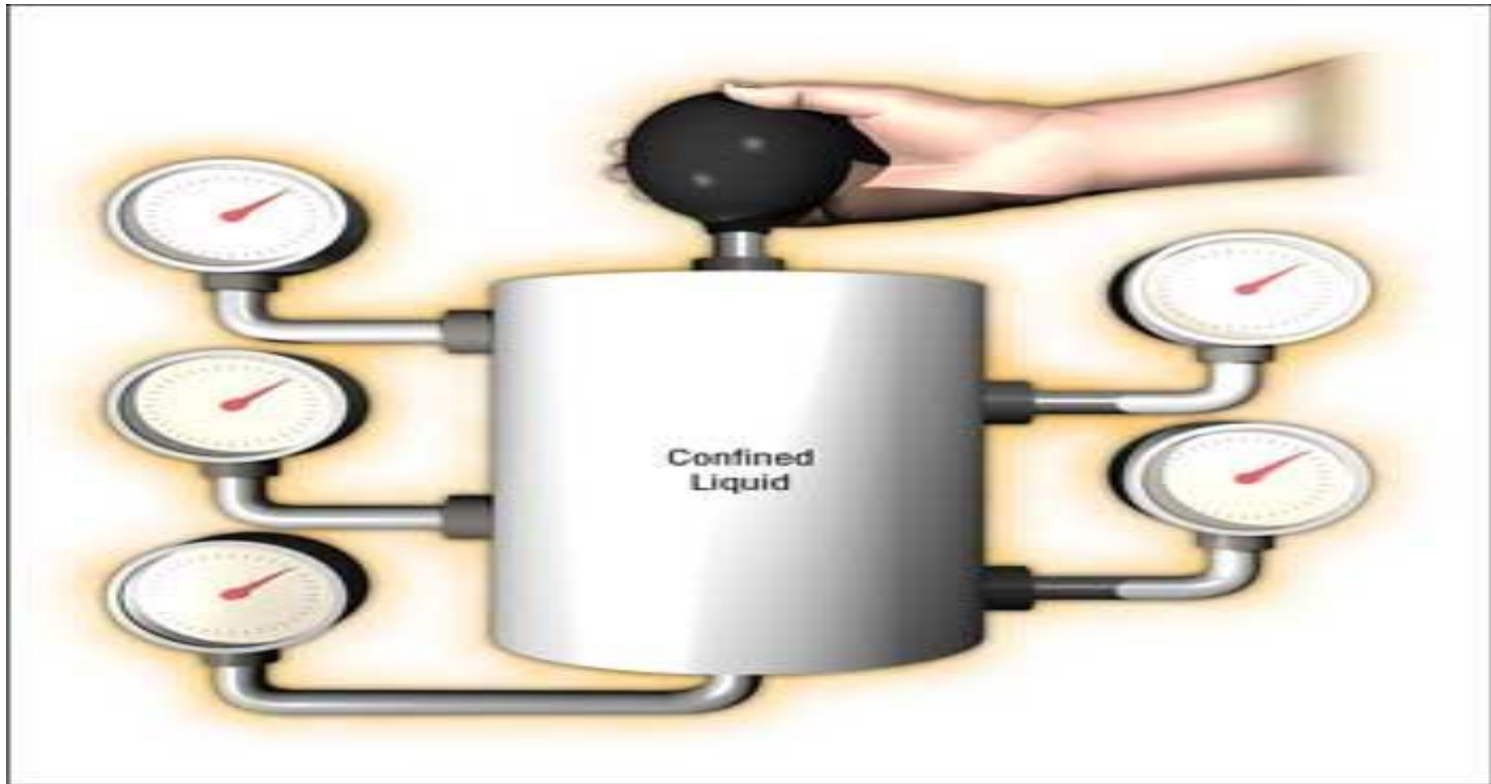

Figure 1 - Pascal's Law
- “Pressure applied to a confined fluid at any point is transmitted undiminished throughout the fluid in all directions and acts upon every part of the confining vessel at right angles to its interior surfaces and equally upon equal areas (Figure 1).”